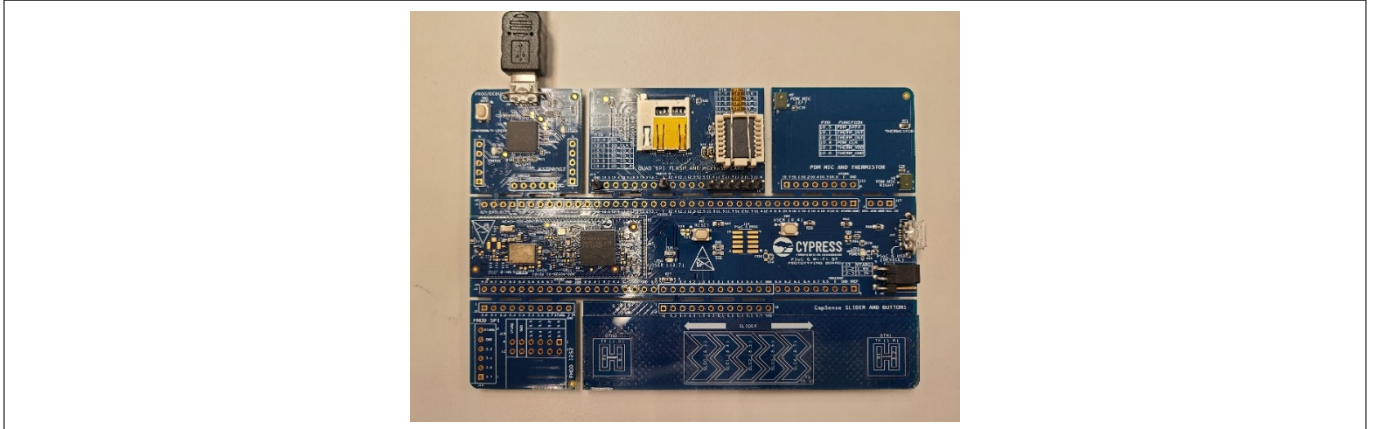
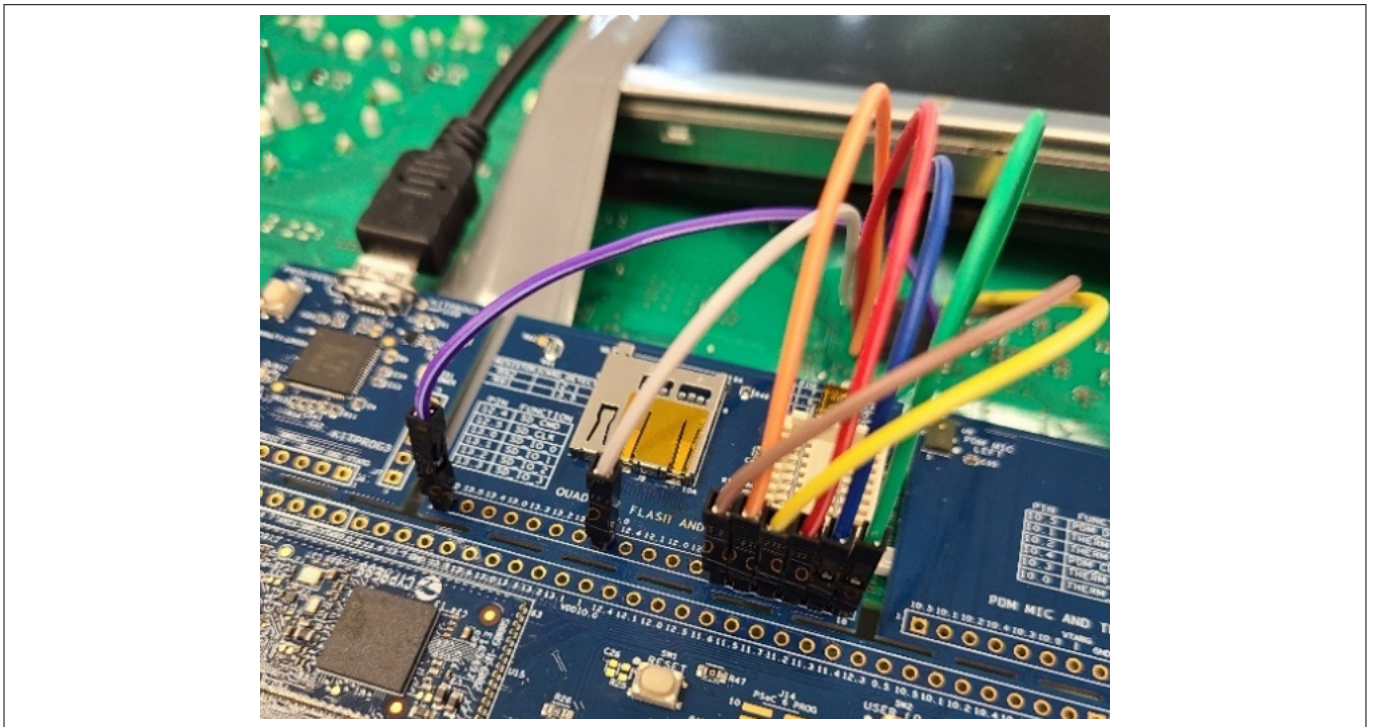

Figure 5 PSoc™ 6 MCU board with the socket attached
Figure 6 External flash memory connected with a pin header
- To test any flash device in SOIC-16 package, replace the flash chip in the socket as shown in Figure 5
- To test flash devices in other package types or to test the flash device that is attached to another board like shown in Figure 6, use the pin header connector. In this case, keep the socket empty because the socket flash signal and external signal through pin header can be overlapped
Figure 5 and Figure 6 show the boards with the hardware modifications:
- Figure 5 shows the flash device in the socket being tested
- Figure 6 shows an external flash device on another board being tested. Note that the jumpers are connected to the pin header while the socket is empty